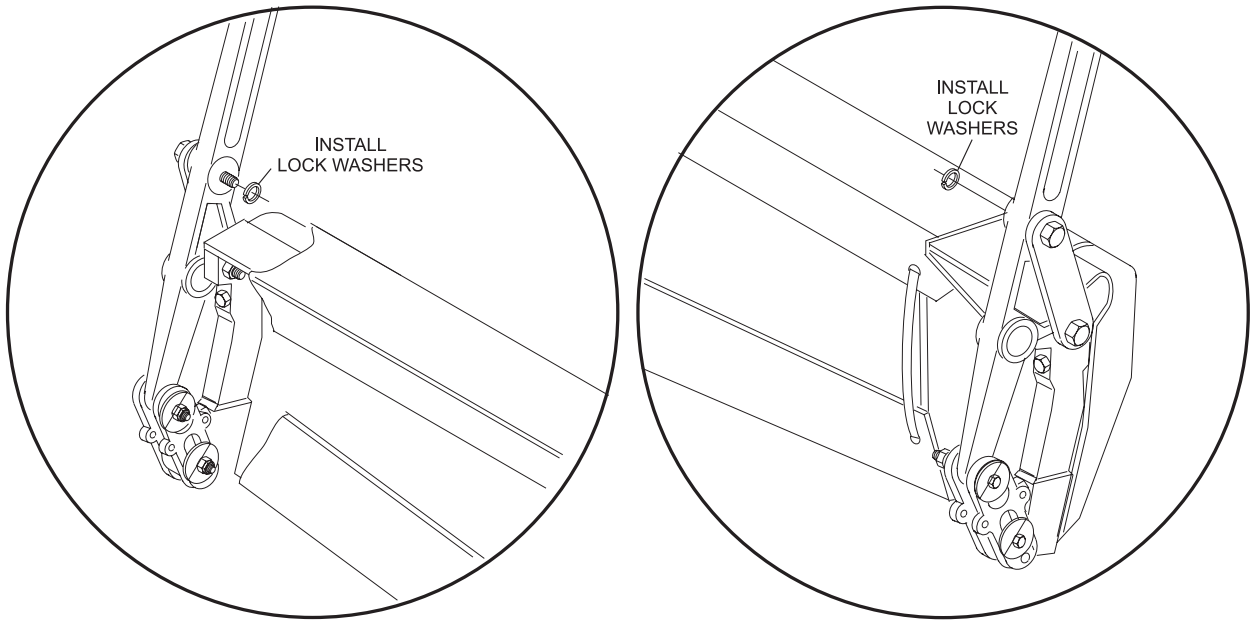

Figure 3
- Place the lockwashers (11-195018-001) onto the cushion arm screw (12-252352-000). Refer to *Figure 3*.